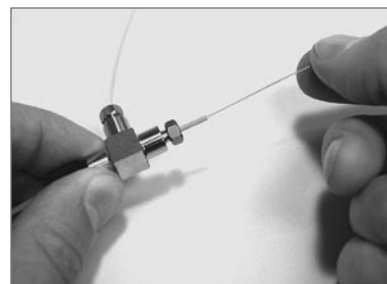

FIGURE 3
- 2) Loosen the nut securing the SealTight™ fitting by one-half to two turns and feed a PicoFrit® or TaperTip™ through the PEEK™ nozzle, distal end first, until it comes through the SealTight sleeve (Figure 3).